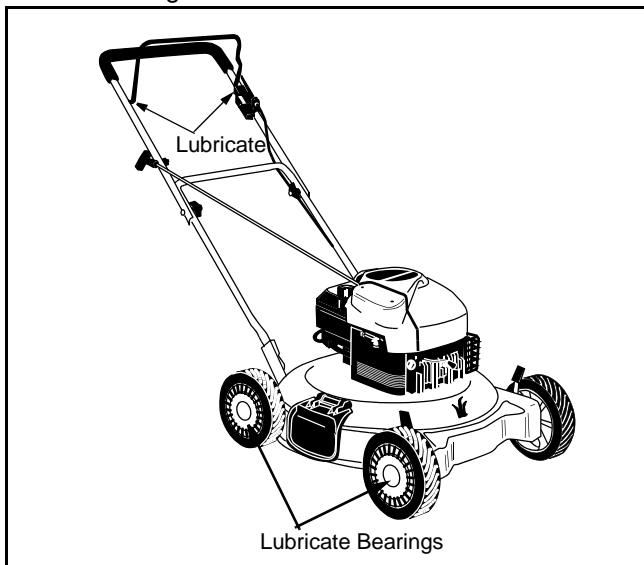

Figure 11
- Lubricate the pivot points on the blade control handle and the brake cable at least once a season with light oil. See Figure 11. The blade control must operate freely in both directions.
- Lubricate the wheel bearings (if so equipped) at least once a season with light oil (or engine oil). Also, if the wheels are removed for any reason, lubricate the surface of the pivot arm axle and the inner surface of the wheel with light oil. See Figure 11.